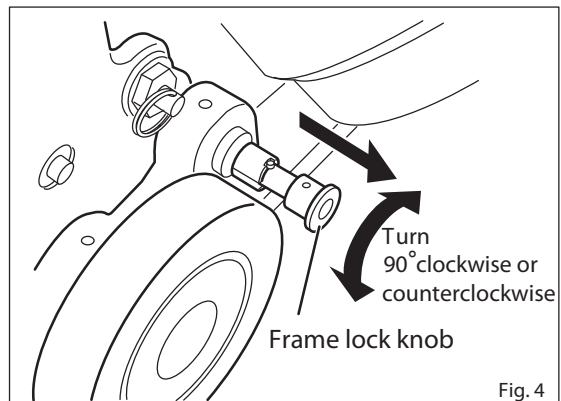

Fig. 4
2. Unlocking the Frame (Figs. 4 & 5)
(1) Pull the frame lock knob on the bottom left hand side of the motor and, at the same time, turn it 90°; either clockwise or counterclockwise. (Fig. 4)
(2) When the frame lock knob is protruding, the frame is unlocked. When transporting the unit, use the same process in reverse to lock the frame prior to transport.